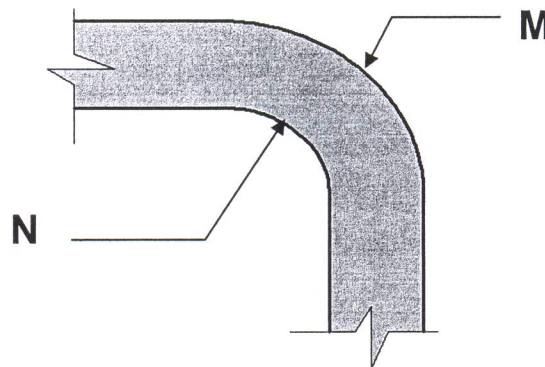

Figure 1 Schematic of a bend plate
3. From the figure 1 indicate the compression stress and tensional stress of the bend plate.